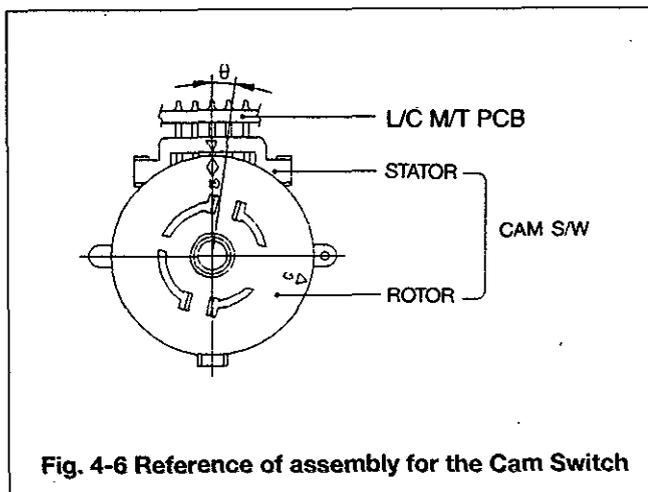

Fig. 4-6 Reference of assembly for the Cam Switch
- 4) Make sure of the position of the Cam Switch when assembling the L/C BRKT Total Ass'y (refer to Fig. 4-6).